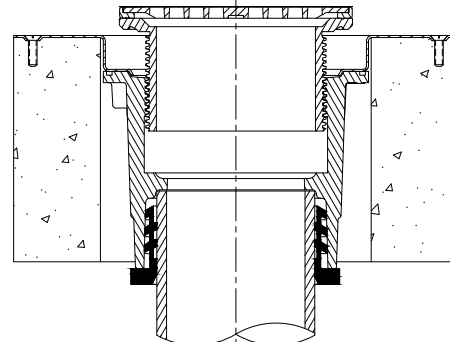

Fig. 3
3. Connect pipe to drain body and pressure test connection per local code requirements. See Fig. 3 (Neo-loc body shown for reference)